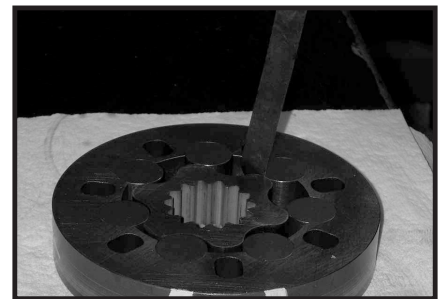

Figure 15
- Place rotor set (8) and wear plate (9) on a flat surface and center rotor (8A) in stator (8B) such that two rotor lobes (180 degrees apart) and a roller vane (8C) centerline are on the same stator centerline. Check the rotor lobe to roller vane clearance with a feeler gage at this common centerline. If there is more than .005 inches (0.13 mm) of clearance, replace rotor set. SEE FIGURE 15.